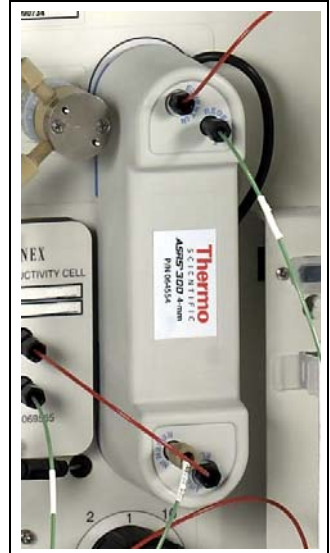

Figure 29. Suppressor Installed (Dionex SRS Shown)
6. Press the suppressor onto the tabs and then slide it down to lock it in place. Pull slightly on the center of the suppressor to verify that it is securely fastened. Figure 29 shows a Thermo Scientific Dionex SRS Suppressor installed on the component panel.